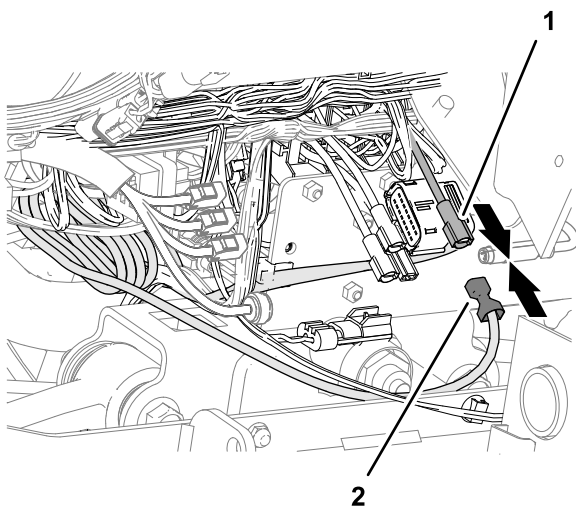

Figure 79
1. At the front of the machine, plug the terminal of the modem power harness labeled SWITCHED into the socket connector for options power of the fuse block (Figure 79).